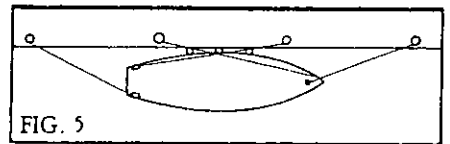

FIG. 5
3. Tying up — attach bow and stern lines to dock, hauling boat in with fenders against dock. Rig crossing spring lines (Fig. 5) to limit motion forward and aft. Be sure to allow some slack in all lines to compensate for tidal activity if present. Never use bow rail, stern rail or stanchions to secure vessel, even for brief periods.